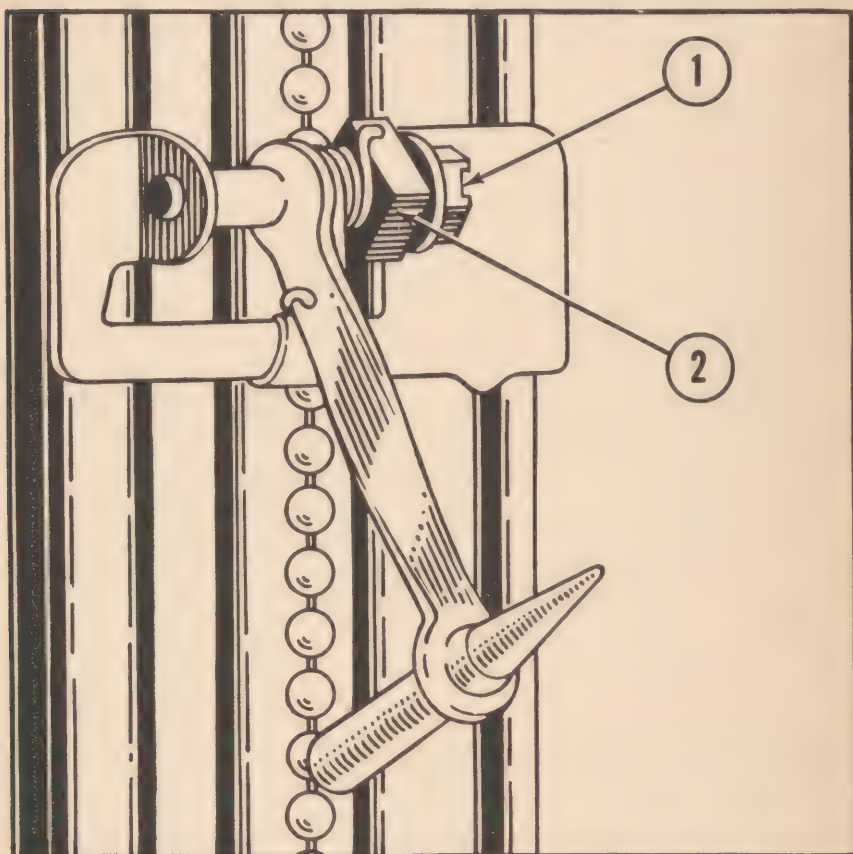

Figure 11. Adjusting stylus pressure.
91. TO ADJUST STYLUS PRESSURE. α. Loosen the screw "1" (fig. 11) at the end of the hinge.
b. Turn the square nut "2" (fig. 11) to increase or decrease the strength of the spring.
c. Tighten screw "1" (fig. 11) to hold the nut in its new position.